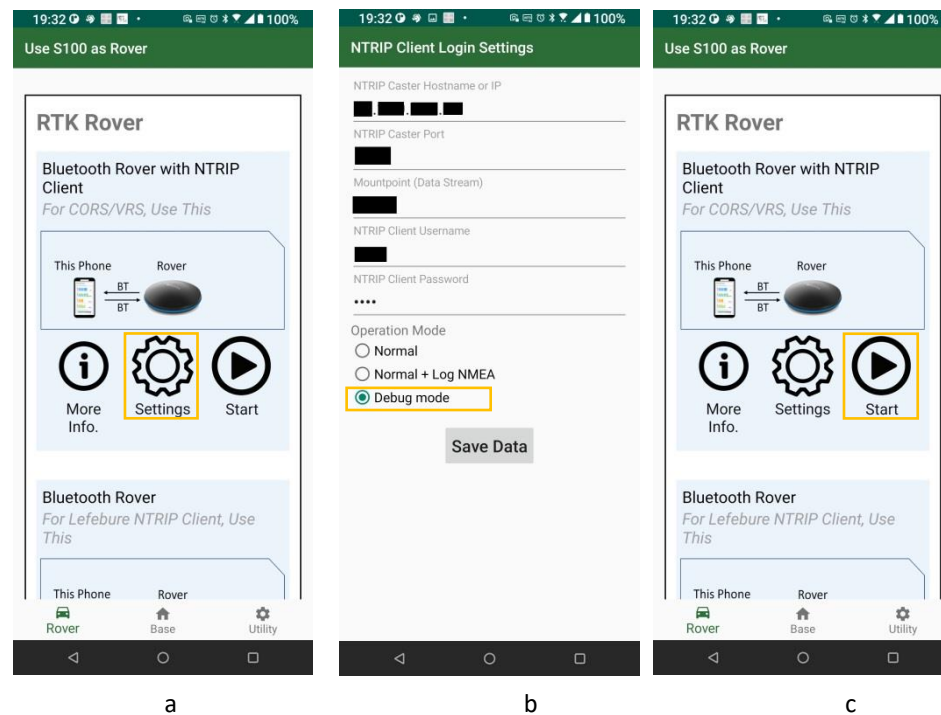

Figure A-11
1. Select **Rover** (bottom screen) -> **Settings** in Bluetooth Rover with NTRIP Client. See Figure A-11 a.
2. Select **Debug Mode** than press **Save Data** button. See Figure A-11 b.
3. Press **Start**. See Figure A-11 c.